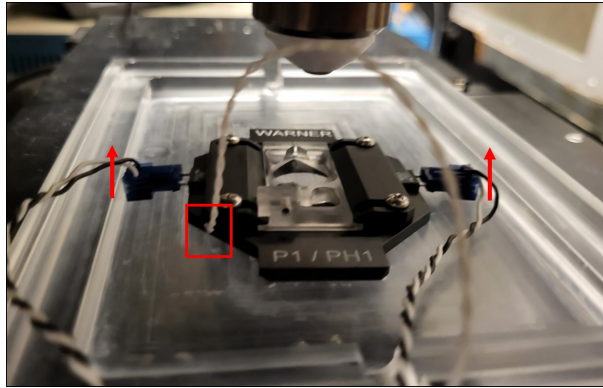

Figure 2: Wires away from the drip tray. White temperature probe inserted.
4. Connect the electrical leads of the sample heater cable to the chamber ensuring the small cables are 'on top' or away from the drip tray. See Figure: 2.
5. Insert the white temperature probe into the small hole on the side of the chamber. See Figure: 2.